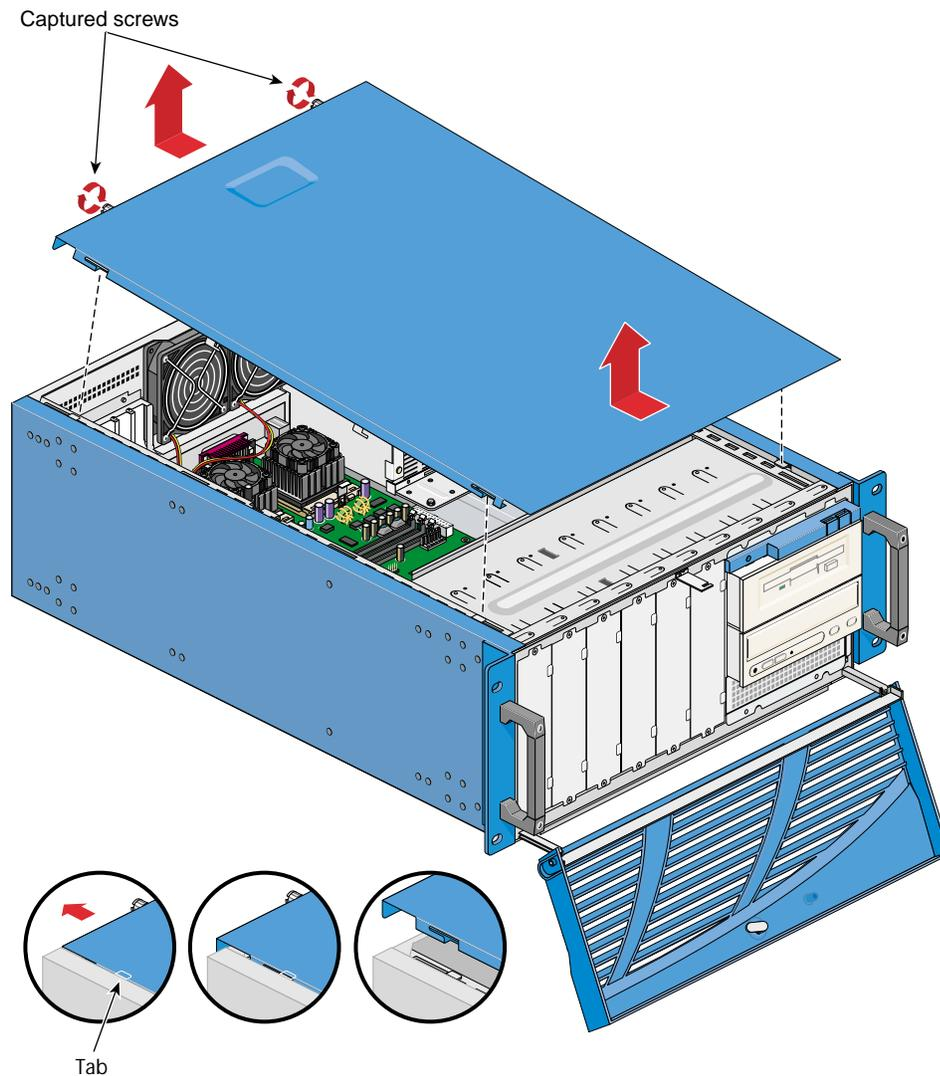

Figure 9 Removing a Node Cover
1. Loosen the two captive screws at the back of the node; refer to Figure 9.
2. Pull the node cover a centimeter or two (about half an inch) toward the back of the node; refer to Figure 9.
3. Lifting the back of the node cover, pull it up and away from the node; refer to Figure 9.